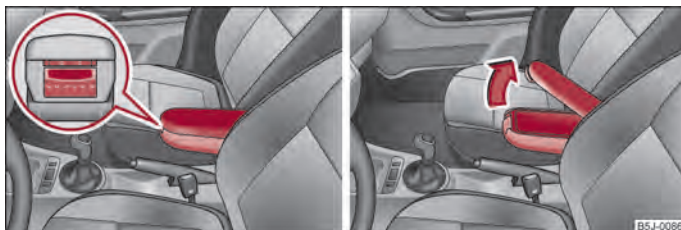

Fig. 73 Armrest: Storage compartment/open storage compartment
- Press the bottom button on the face end of the armrest → fig. 73 on the left. Fold the armrest forwards and release the button.
- Press the top button and fold up the cover of the storage compartment → fig. 73 on the right.